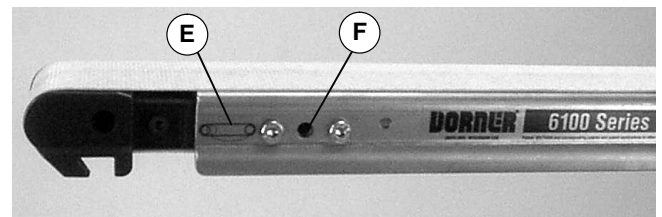

Figure 2
2. On tension end of the conveyor identified with a  label (E Figures 2 & 3), insert a 5 mm hex key wrench to engage pinion gear (F of Figure 2).
10. Insert a 5 mm hex key wrench to engage pinion gear (F of Figure 2).
NOTE: On pinion gear (F of Figure 2), do not exceed a torque of 25 in-lb (2.8 Nm) for 2" to 12" (44 mm to 305 mm) wide conveyors and 40 in-lb (4.5 Nm) for an 18" (457 mm) wide conveyor. Over-tensioning the conveyor belt could cause excessive pulley bearing load and early failure.
11. With V-guide seated in pulley, rotate the pinion gear (F of Figure 2) counter-clockwise to sufficiently tension the belt to handle the conveyor load.